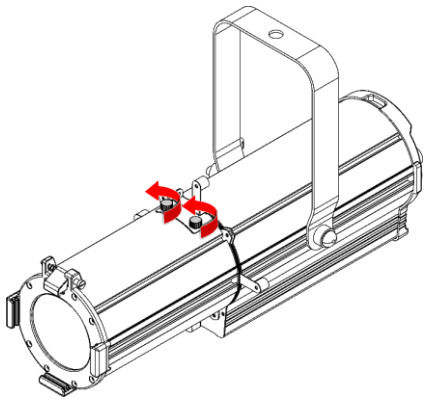

Fig. 15
- 01) Loosen the 2 **cover plate thumbscrews (09)** (see Fig. 15). Do not remove them.